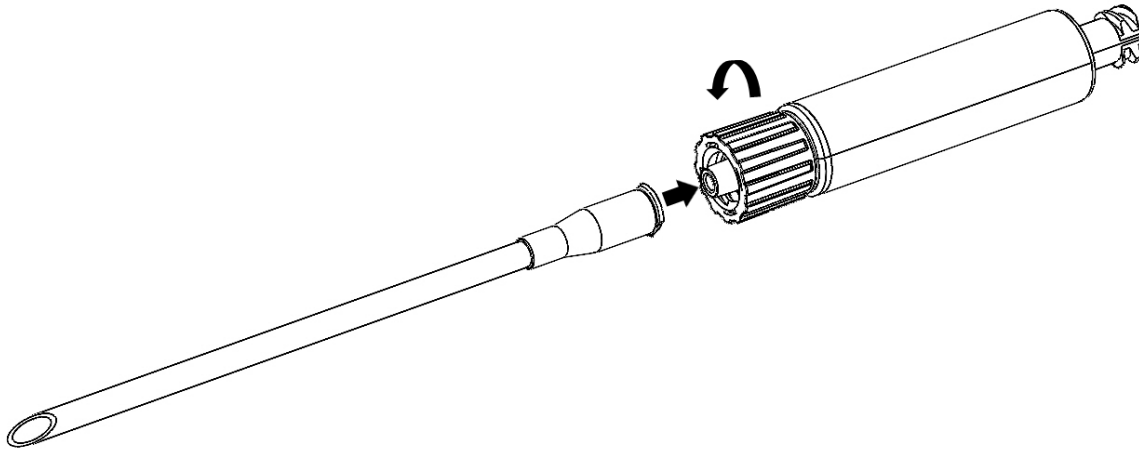

Figure 2. Connection of Decompression Needle/Thoracostomy Device to Capnospot
5. Connect the male luer on the Capnospot to the female luer portion of a needle or thoracostomy device as shown in figure 2 below.